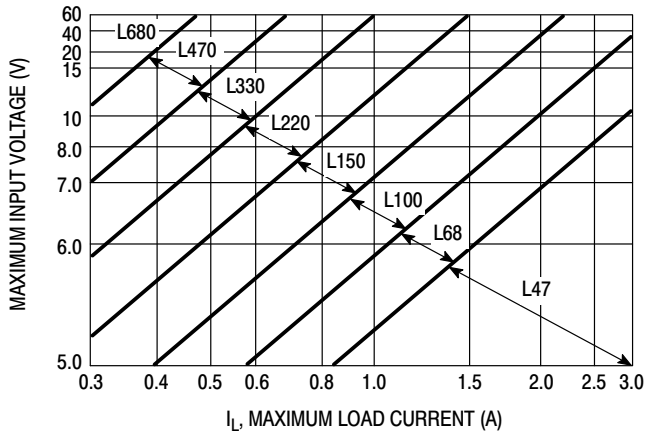
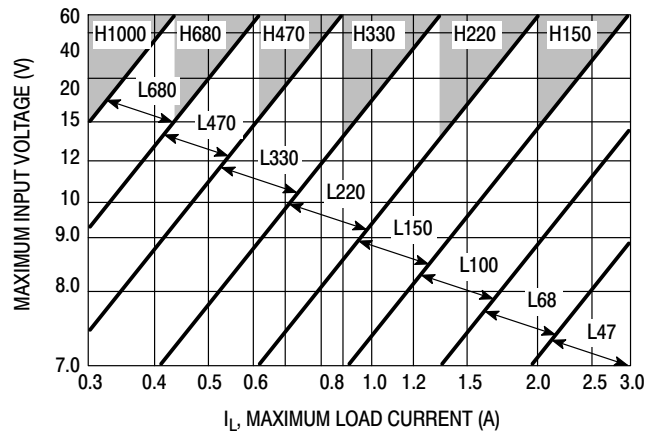

Figure 18. LM2576-3.3
Figure 19. LM2576-5
4. Inductor Selection ($L1$) A. According to the required working conditions, select the correct inductor value using the selection guide from Figures 18 to 22. B. From the appropriate inductor selection guide, identify the inductance region intersected by the Maximum Input Voltage line and the Maximum Load Current line. Each region is identified by an inductance value and an inductor code. C. Select an appropriate inductor from the several different manufacturers part numbers listed in Table 2. The designer must realize that the inductor current rating must be higher than the maximum peak current flowing through the inductor. This maximum peak current can be calculated as follows: $I_{p(max)} = I_{Load(max)} + \frac{(V_{in} - V_{out}) t_{on}}{2L}$ where t_{on} is the “on” time of the power switch and $t_{on} = \frac{V_{out}}{V_{in}} \times \frac{1.0}{f_{osc}}$ For additional information about the inductor, see the inductor section in the “Application Hints” section of this data sheet.	4. Inductor Selection ($L1$) A. Use the inductor selection guide shown in Figures 19. B. From the selection guide, the inductance area intersected by the 15 V line and 3.0 A line is L100. C. Inductor value required is 100 μ H. From Table 2, choose an inductor from any of the listed manufacturers.
To simplify the inductor selection process, an inductor selection guide for the LM2576 regulator was added to this data sheet (Figures 18 through 22). This guide assumes that the regulator is operating in the continuous mode, and selects an inductor that will allow a peak-to-peak inductor ripple current to be a certain percentage of the maximum design load current. This percentage is allowed to change as different design load currents are selected. For light loads (less than approximately 300 mA) it may be desirable to operate the regulator in the discontinuous mode, because the inductor value and size can be kept relatively low. Consequently, the percentage of inductor peak-to-peak current increases. This discontinuous mode of operation is perfectly acceptable for this type of switching converter. Any buck regulator will be forced to enter discontinuous mode if the load current is light enough.